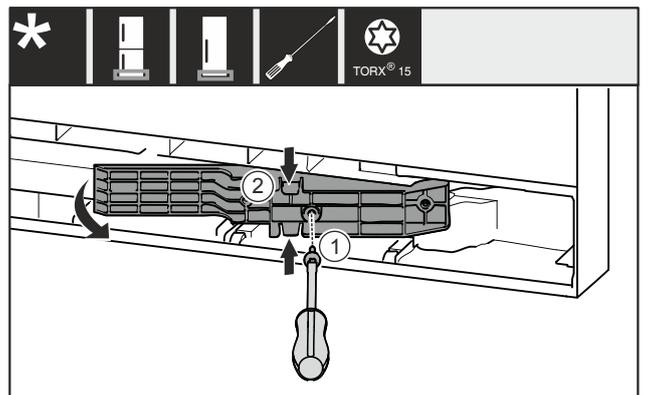

Fig. 21 *
- ▶ Remove the screw Fig. 21 (1).*
- ▶ Gently press the adapter piece Fig. 21 (2) together at the top and bottom and pull it out.*